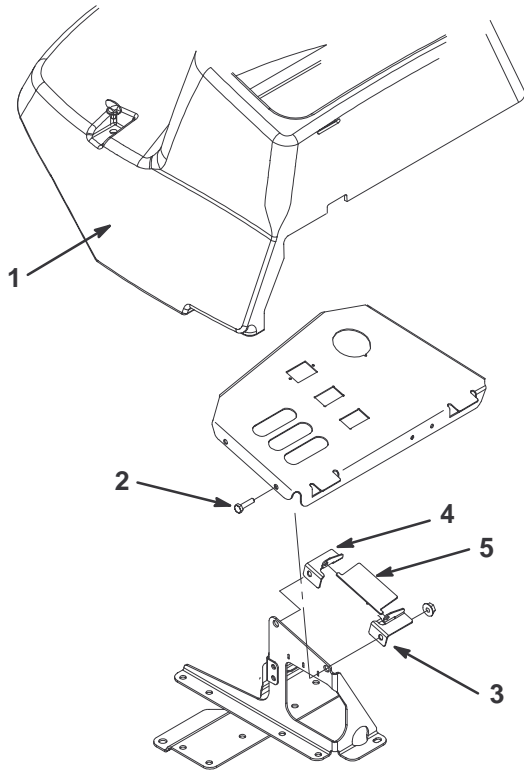

Figure 1
1. Rotate latches and remove control panel cover (Fig. 1).
2. Under front of control panel, locate ends of capscrews securing control panel to frame (Fig. 1).
3. Insert left hand latch bracket up thru lift lever slot and onto capscrew. Loosely secure with 1/4–20 flange nut (Fig. 1).
4. Insert right hand latch bracket up thru lift lever slot and onto capscrew. Loosely secure with 1/4–20 flange nut (Fig. 1).
5. On top of control panel, insert each end tab of lift latch into holes in latch brackets (Fig. 1). Tighten flange nuts.